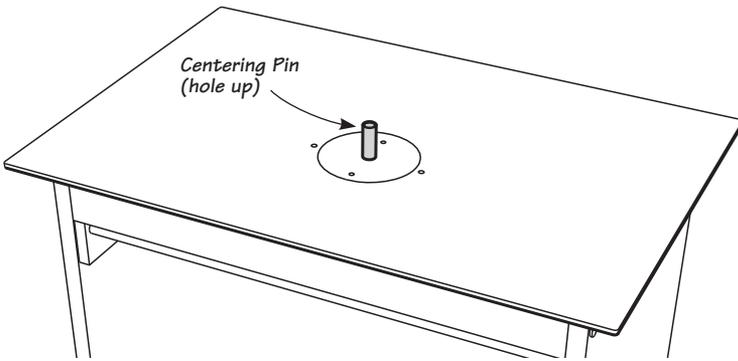

Figure 5: Placing centering pin in router collet.
2. Raise the router such that the centering pin projects through the router table (**Figure 5**).